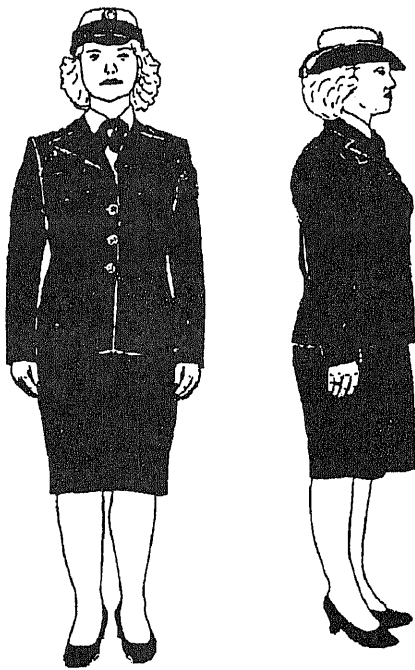

Figure 11-2.—Attention.
**ATTENTION:** The position of attention is the basic military position. It indicates you are alert and ready for instruction. In this position, stand with your heels together, feet forming an angle of 45 degrees, head and body erect, hips and shoulders level, and chest lifted. As shown in figure 11-2, allow your arms to hang naturally—thumbs along skirt or trouser seams and fingers joined and in their natural curl. Keep your legs straight, but not stiff at the knees. Direct your head and eyes to the front. Keep your mouth closed, and pull your chin in slightly. When called to attention, bring the heel of your left foot to the heel of your right foot.